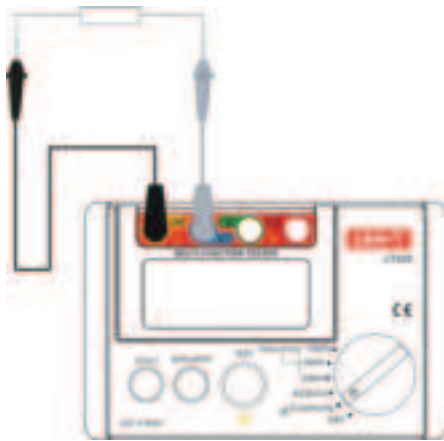

Figure 2
VIII. Testing for Continuity(See Figure 2)
1. Connect the tested object and the Tester as shown in Figure 2;